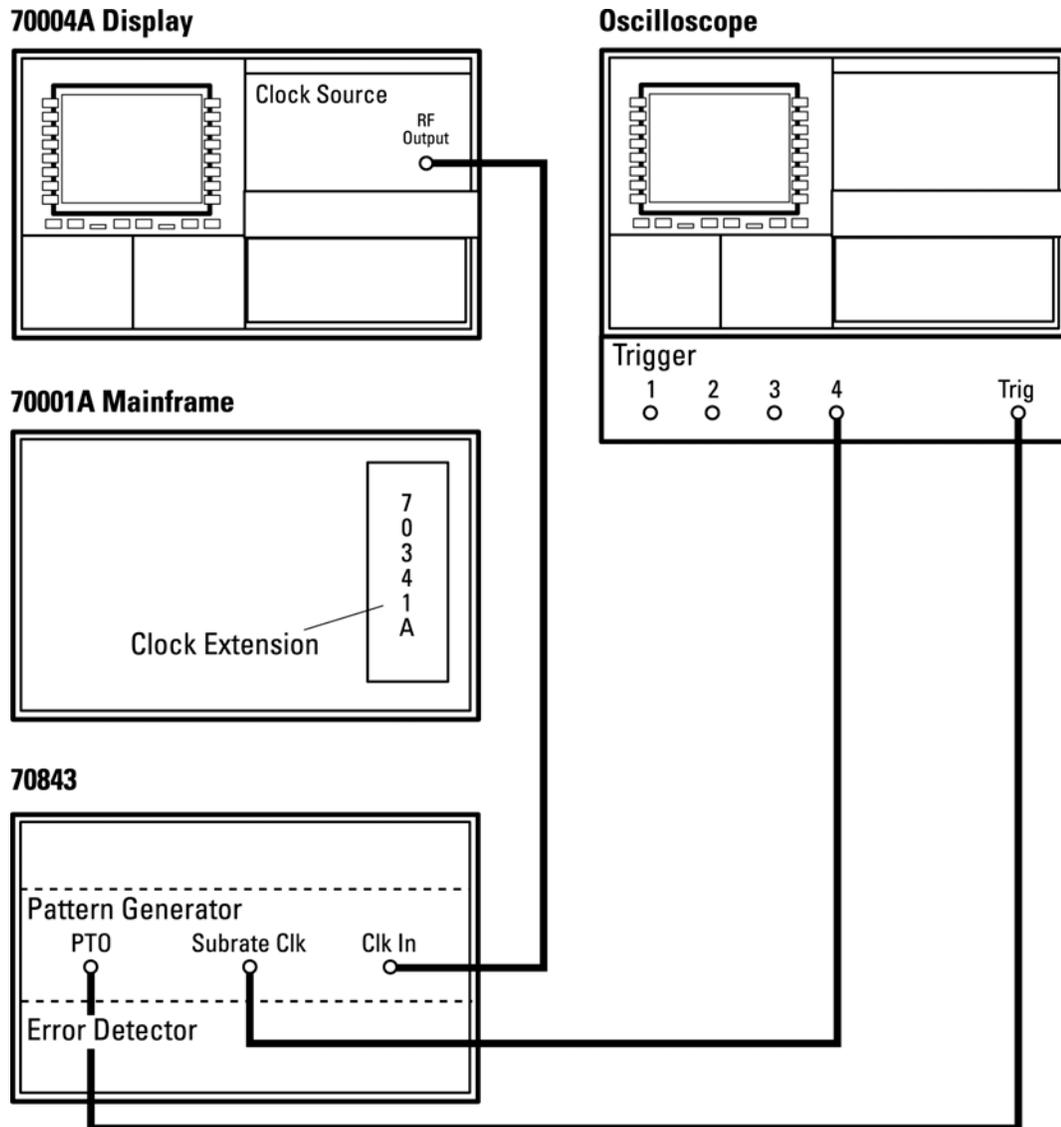

Figure 11-9
1. Re-connect the equipment as shown in Figure 11-9 and set the clock output frequency to 10 GHz.